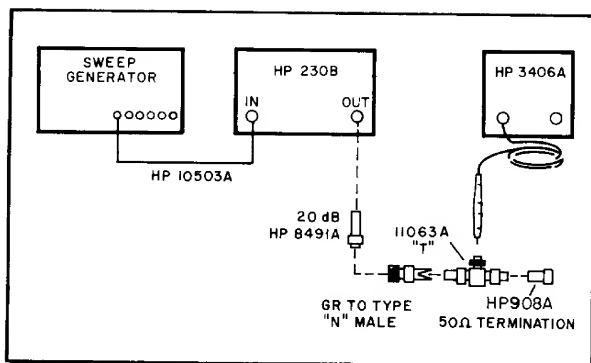

Figure 5-5. 230B Voltmeter Accuracy Setup
- Connect test equipment as shown in Figure 5-5.